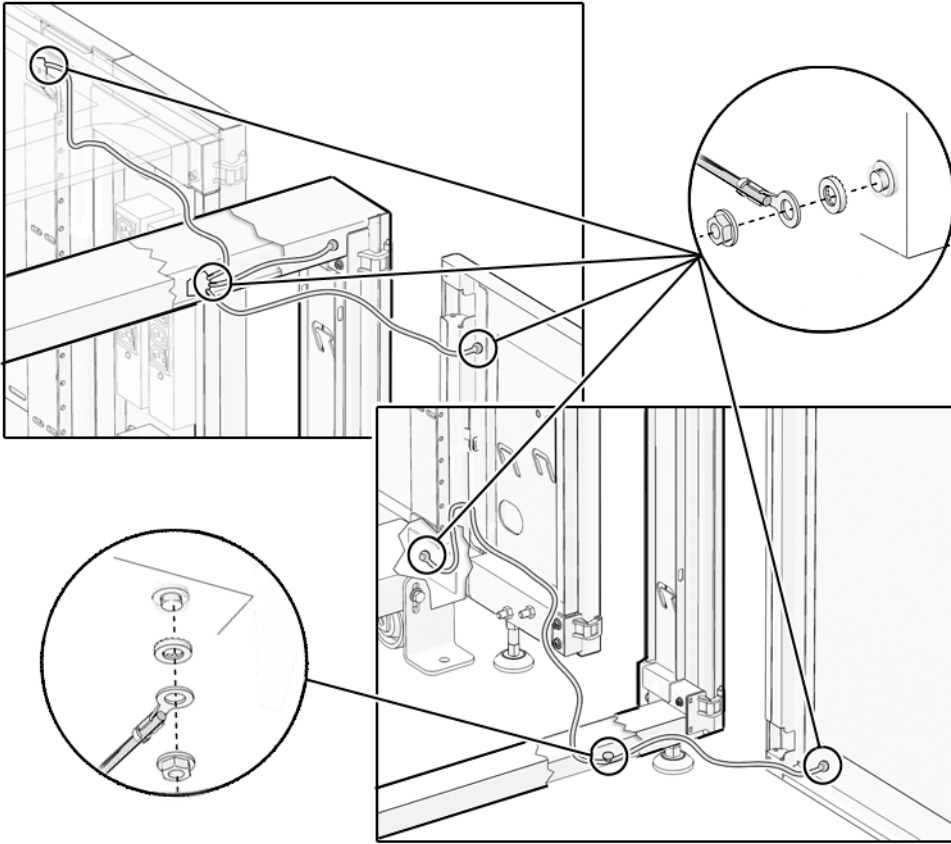

FIGURE 3-2 Connecting the Cabinet Extension Ground Cables to the Sun Rack
Both ends of the cabinet extension cable are screwed into the extension for shipping (FIGURE 3-2).
1. Using a 10 mm wrench, disconnect the front portion of the ground cable. This part will attach to the door (FIGURE 3-2).
2. Connect the original rack cabinet ground cable to the cabinet extension (FIGURE 3-2).